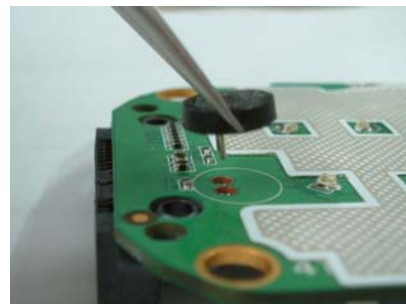

Fig.4.4
- Check that the Microphone Assy (Fig.4.4) is not mechanical damaged, dirty or oxidized. Replace it if necessary.